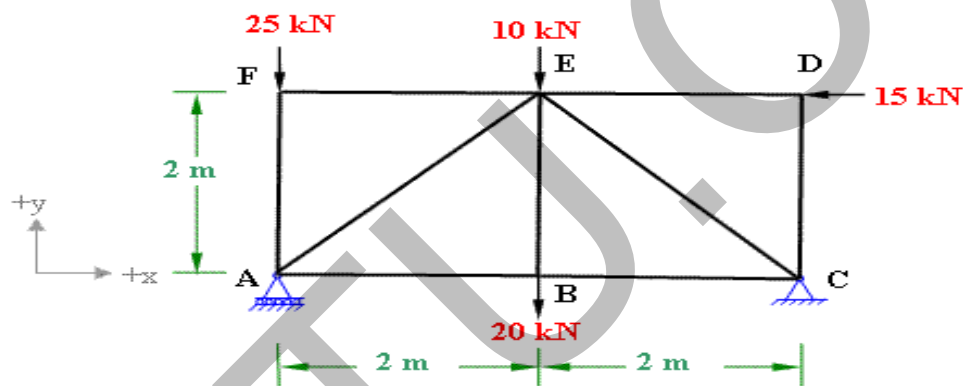

Figure -3
6. Calculate Horizontal deflection and Vertical deflection at point D in the Truss shown in figure -3 (14M)